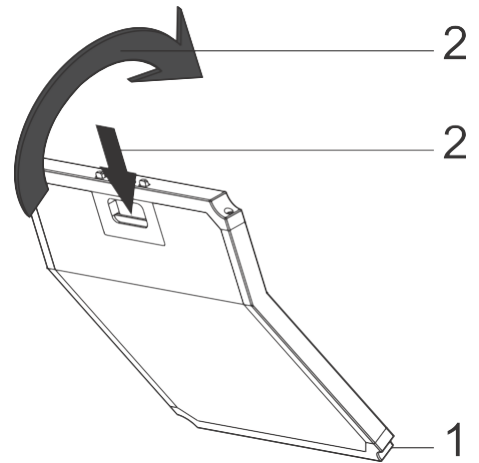

Fig. 6: Active Carbon Filter
3. The carbon filter is attached to this square motor casing in a similar action to the aluminium grease filter that you have just removed. Locate the bottom of the carbon filter in the square motor casing. Press on the finger tab to open the catch and then carefully press it home (fig 6).